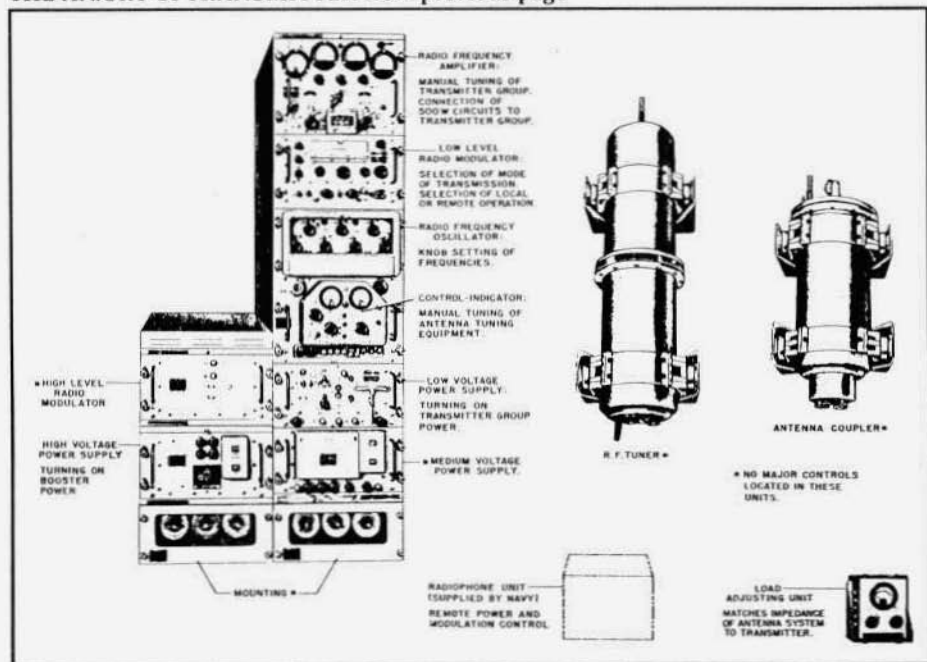

Fig. 2. SRT-15 configuration including antenna loading and tuning units, mounting base and "booster" (see text).
Radio set AN/SRT-15 was made up of an SRT-14 as described above plus a high voltage power supply (PP-1096/SRT) and a high-power modulator (MD-230/SRT) mounted in stacked cabinets CY-1573/SRT and CY-1572/SRT (see Fig. 2.). This allowed for 500 watt op-
(1) RADIO FREQUENCY OSCILLATOR (RFO) O-275/SRT. - This unit generates a nominal 2 vrms RF signal variable in 10 cps steps from 0.3 to 26 mc. A modulated frequency shift is provided for FSK and facsimile modes. Control-Indicator C-1352 is also mounted on the RFO front panel and contains the switches and indicating meters required to manually control the remote antenna tuning equipment originally used with the transmitter (see below and Fig. 2).
(2) LOW VOLTAGE POWER SUPPLY (LVPS) PP-1094/SRT. - This chassis provides B+ outputs of +300 and +250 volts, -250 volts bias, and -24 volts for control circuits. Primary power input is 110 vac single phase.
(3) MEDIUM VOLTAGE POWER SUPPLY (MVPS) PP-1095/SRT. - This provides +500 and +1300/1050 volts to the LLRM and RFA (see below). Primary power input is 110 vac single phase.
(4) LOW LEVEL RADIO MODULATOR (LLRM) MD 229/SRT. - This unit accepts audio input from carbon and
NOTE: The HVPS and HLRM cabinets together with the units they house formed the RADIO MODULATOR-POWER SUPPLY OA-685/SRT, also called the "Booster" (see Fig. 2).